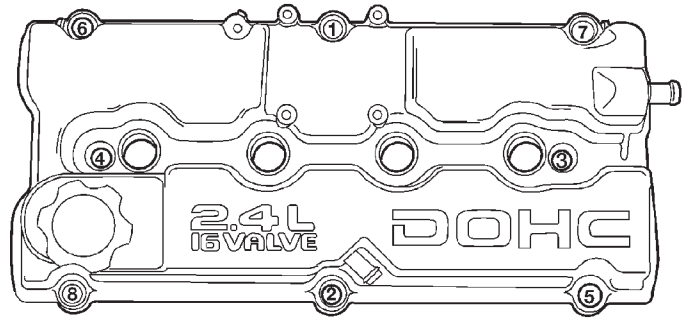

Fig. 26 Cylinder Head Cover Tightening Sequence
- (2) Apply Mopar Silicone Rubber Adhesive Sealant at the camshaft cap corners and at the top edge of the 1/2 round seal.
- (3) Install cylinder head cover assembly to head and tighten fasteners in sequence shown in (Fig. 26). Using the 3 step torque method: